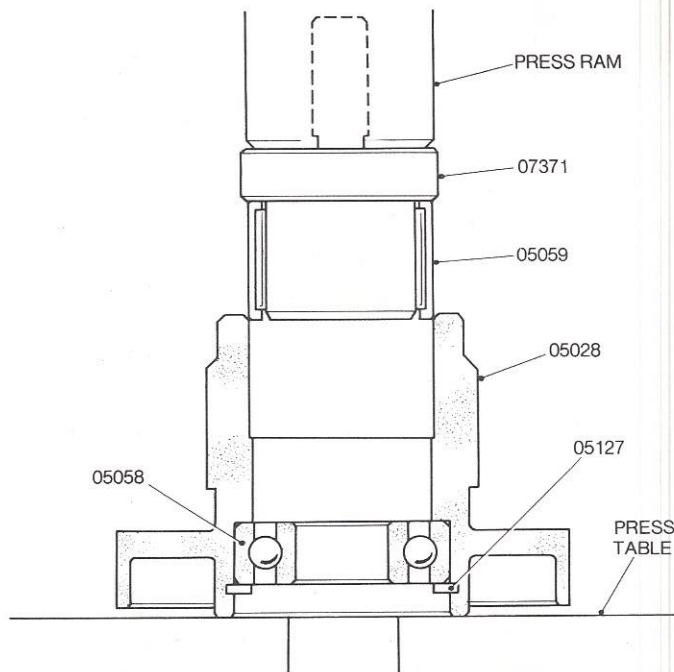

Figure 13 Assembly of the Crankshaft Housing Needle Roller Bearing
- 9.2.3 Stand the Crankshaft Housing on its large end on the base of the press. Place the Needle Roller Bearing on the Assembly Press Tool 07371 and locate the Bearing in the mouth of the bore. Centralise the assembly under the press ram and install the Bearing until the Assembly Press Tool touches the Crankshaft Housing. See Figure 13.